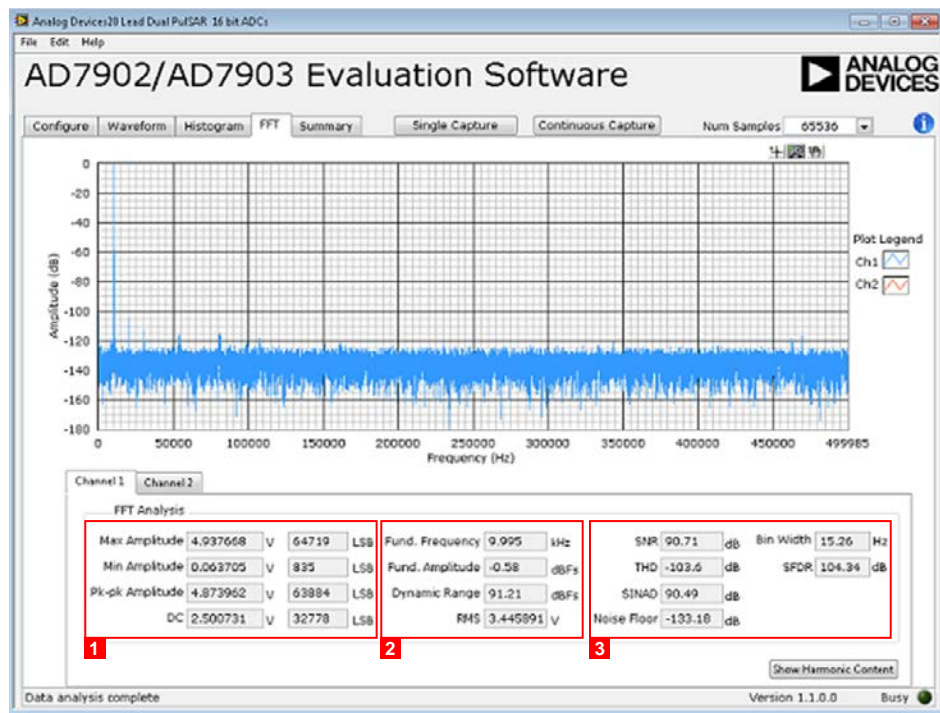

Figure 24. FFT Tab
Figure 24 shows the FFT tab. This feature tests the traditional ac characteristics of the converter and displays a fast Fourier transform (FFT) of the results.
- The area labeled 1 in Figure 24 shows the spectrum information.
- The area labeled 2 in Figure 24 displays the fundamental frequency and amplitude. You can also click **Show Harmonic Content** to view information about the second to fifth harmonics.
- The area labeled 3 in Figure 24 displays the performance data, including the SNR, THD, SINAD, and noise performance.